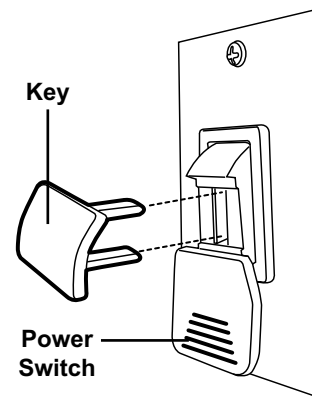

Figure 32
6. To **turn off** the Bandsaw, push the Key down and remove it, see Figure 32.
8. **Do not force the material into the Saw Blade (36).** Light contact with the Saw Blade will permit easier following of the line and prevent undue friction, heating and work-hardening of the Saw Blade at its back edge.